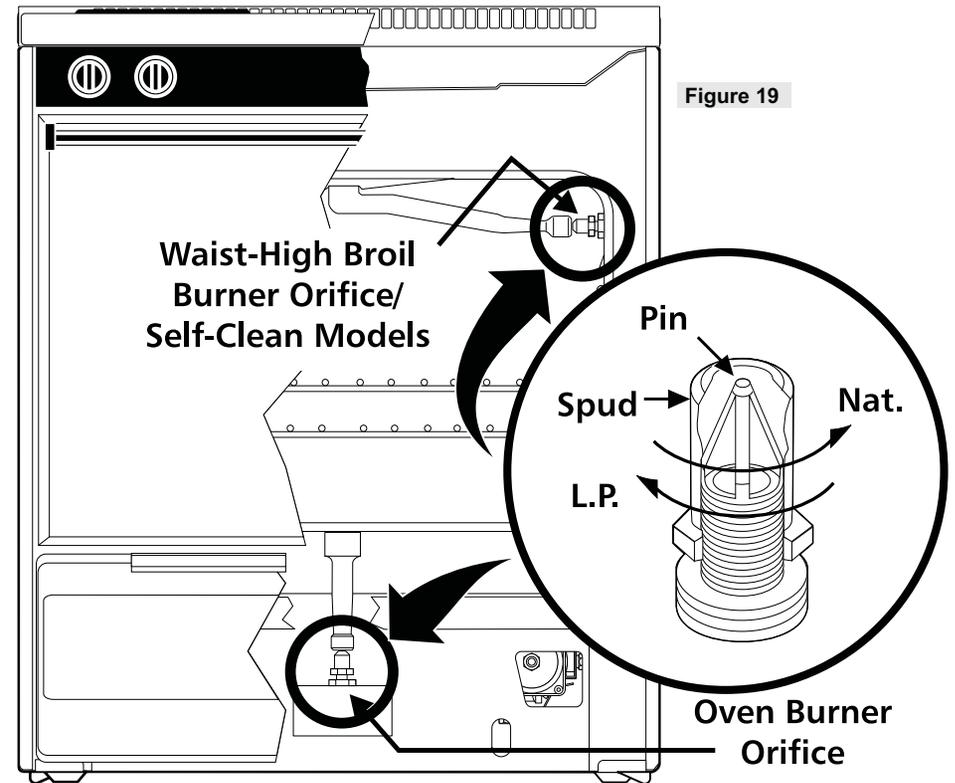

Figure 19
- A. Locate the oven burner spud (figure 19).
- B. Locate the broiler burner spud and turn down until snug against the LP/Propane metering pin. **Do not over-tighten** (figure 19).